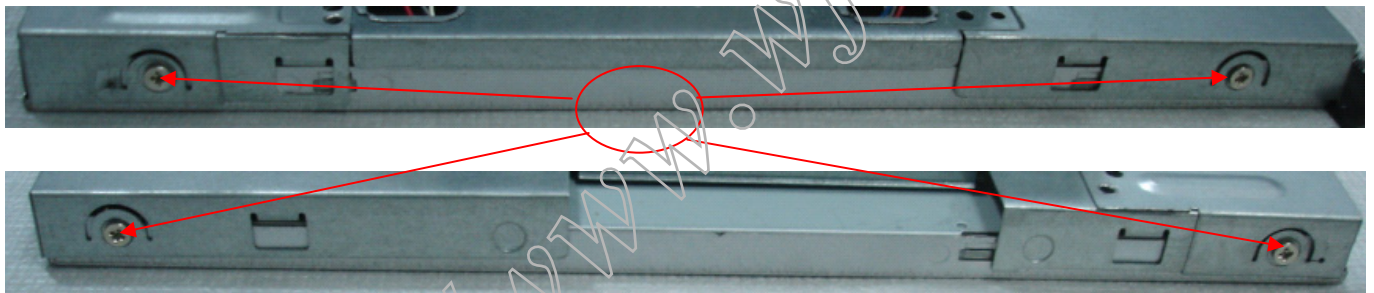

Fig 5
4. Remove the screws to remove the panel. Put attention to the LVDS cable.(Fig 5)